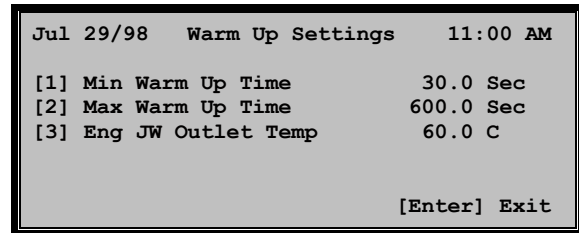

Figure 2-29
- (b) The WARMUP SETTINGS screen (Figure 2-29) will be displayed.